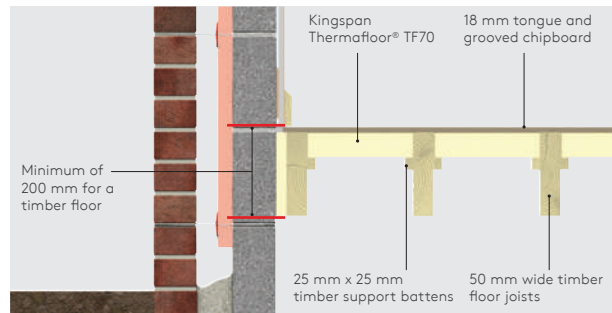

Figure 9 - Complete timber floor insulation
- In order to minimise cold bridging at the edge of the floor, the distance between the top surface of the floor insulation or perimeter insulation upstand, and the bottom of the wall insulation must be a minimum of 150 / 225\* mm (see Figures 1 & 2) for a concrete floor and 200 mm for a suspended timber floor (see Figure 9). The further down the wall insulation extends past the floor insulation, the better the thermal performance of the junction between the wall and the floor.